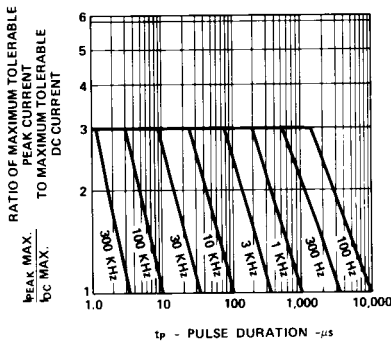

Figure 5. Maximum Tolerable Peak Current vs. Pulse Duration. (I_{DC} MAX as per MAX Ratings).
1. See Figure 5 (Red), 10 (Yellow), or 15 (Green) to establish pulsed operating conditions.